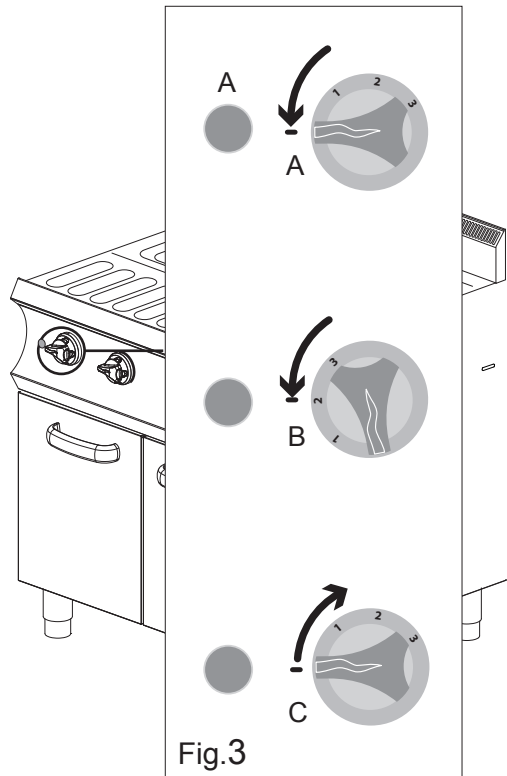

Fig.3
1. Turn the switch-on knob to "1-2-3" as required. The green indicator light will turn on signalling the operating phase (Fig. 3-A/B).